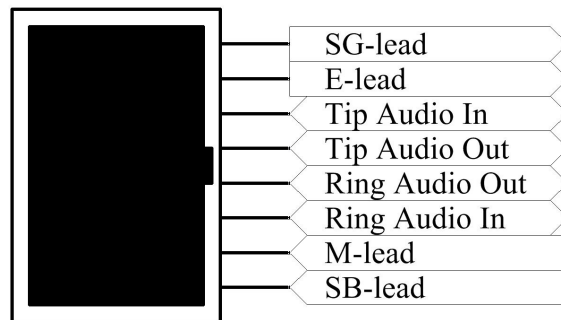

Figure 3: RJ-45 Pinout
- J1** Analog telephone connections. This connector is a quad RJ-45. One Connector is used for each port, with the pinout listed below. See Figure 3.
Connections to other pieces of telephony equipment are made via cables, one end of which is an RJ-45 plug that fits into the RJ-45 jacks on the rear panel of the board. The pinout of these jacks is given in *Figure 3* above. The termination and pinout of the other end will depend on the equipment to which the board is connected. Providing the proper cable is the responsibility of the user. As the implementation of the E&M interface varies widely with the application, no standard cable can be provided. However, helpful information on determining the details for a specific application may be found in Section 2.2.